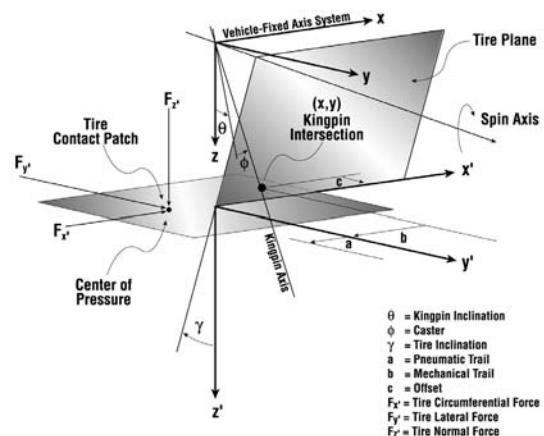

Figure 2 - Relationship between steer axis and tire-ground contact point
**Steer Offset** (sometimes called **scrub radius**) is the distance from the point where the steer axis intersects the ground plane to the tire contact point. This distance is important because any tire force at the tire contact point produces a moment about the steer axis (see Figure 2). This moment arm is equal to the steer offset when the wheel is steered straight ahead; the moment arm changes as the wheel is steered.